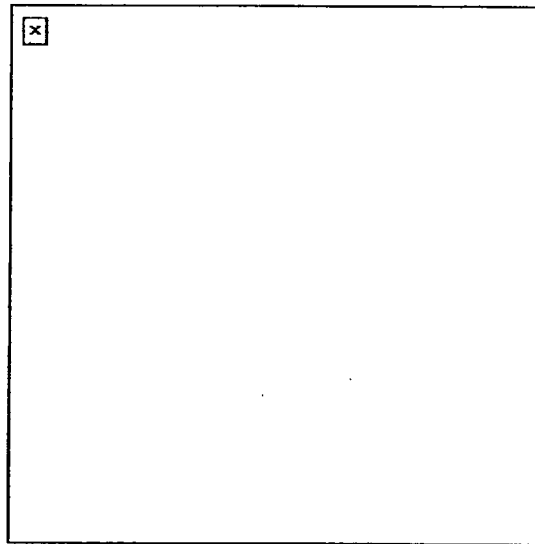

Figure 031-507-1022-1
1. Hold the brush of the M13 DAP about 3 feet from the contaminated area (Figure 031-507-1022-1).